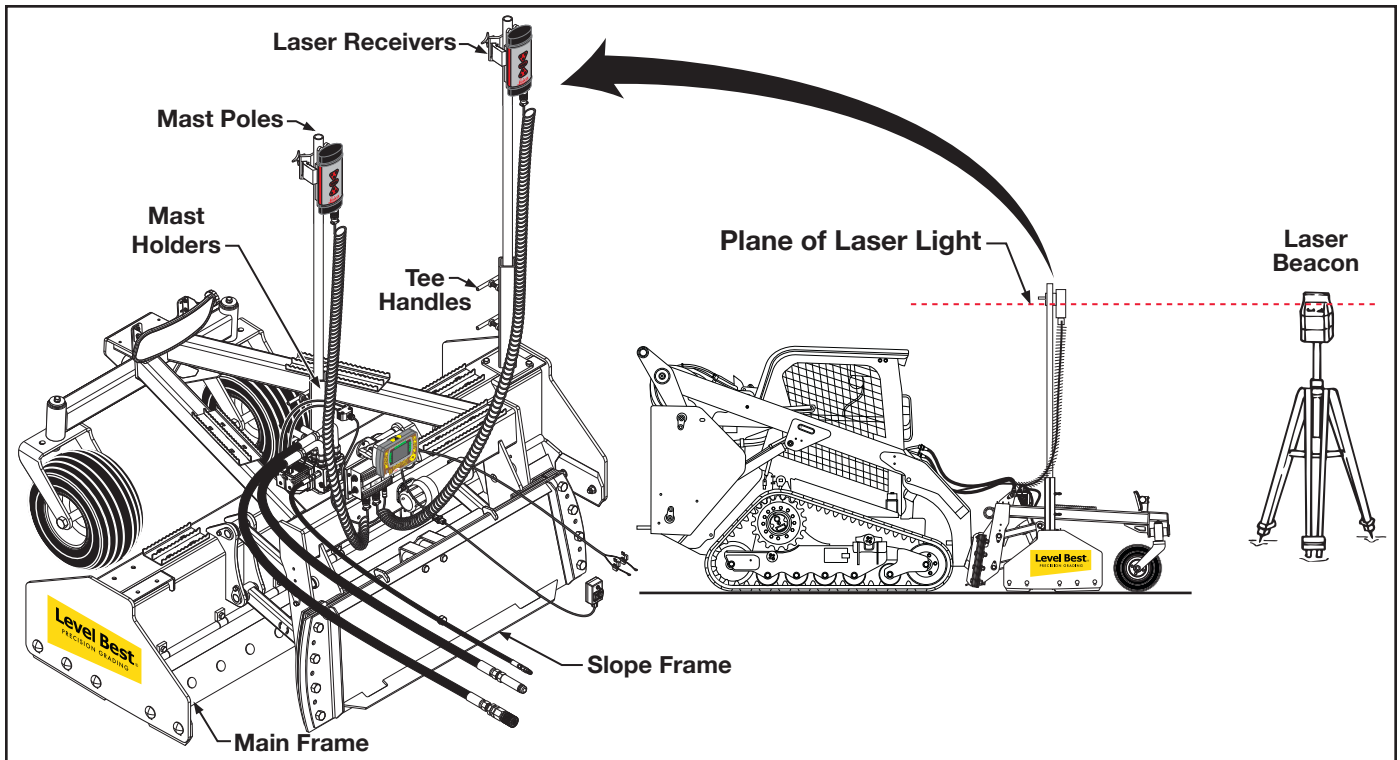

Figure 34. Components of the Automatic Control System on a Skid Steer.
6. Insert the two Mast Poles in the holders, one in the center and one on the right side, until they rest at the bottom of the tube. Tighten the tee handles to secure the masts. Clamp a Laser Receiver near the top of each mast so it is higher than any local obstructions including the skid steer cab or fall protection devices. (Refer to Figure 34.)